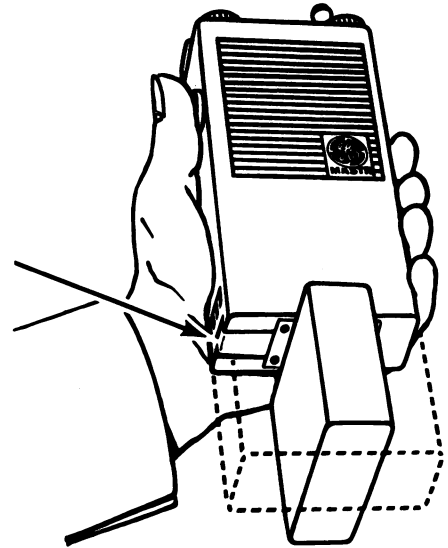

Figure 2 - Battery Pack Replacement
2. Press the battery retaining latch away from the battery pack as shown in Figure 2, and turn the battery pack one-quarter turn to the left. The battery pack can now be detached from the radio.
1. Hold the battery pack at a 90° angle to the radio as shown in Figure 2.